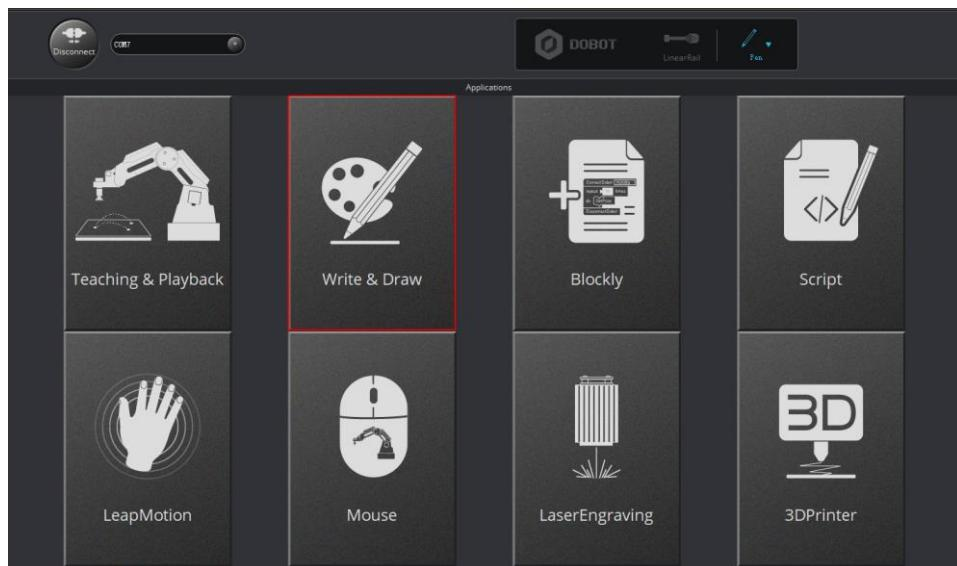

Figure 5.58 Click Write & Draw
**Step 1** Click **Write & Draw** on the **DobotStudio** page, as shown in Figure 5.58.